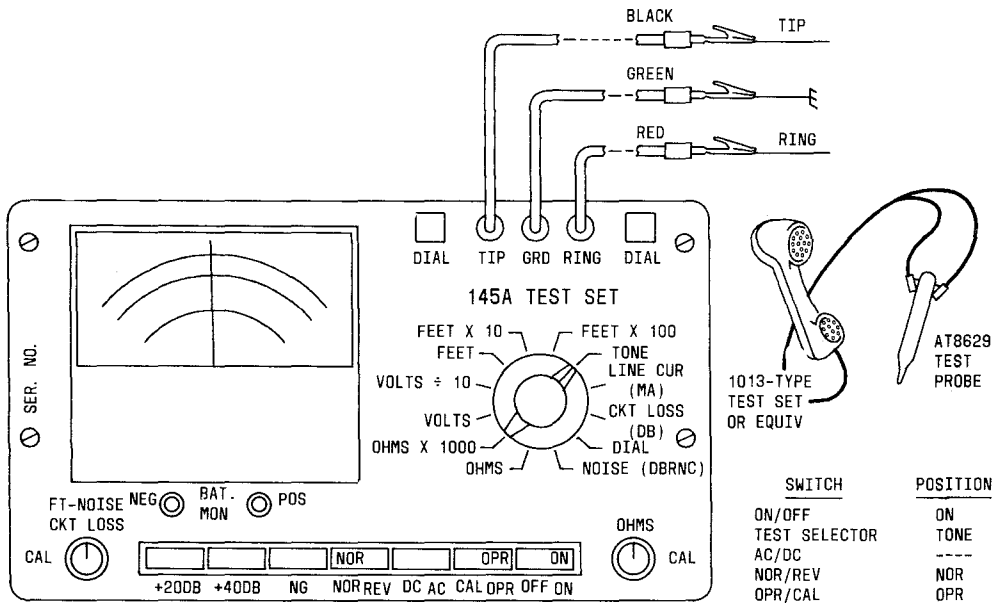

Fig. 9—Use of Tone for Pair Identification
4.05 Use of Tone for Pair Identification (Fig. 9): The following steps must be used when making this test: